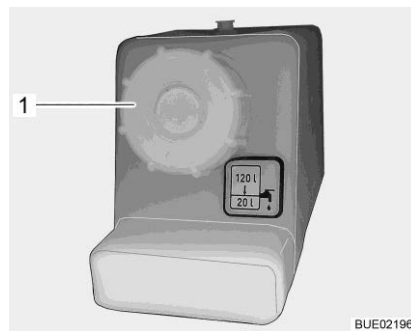

Fig. 191 Cap for the drinking water filler neck
- Turn the cap (Fig. 191,1) anticlockwise and remove.